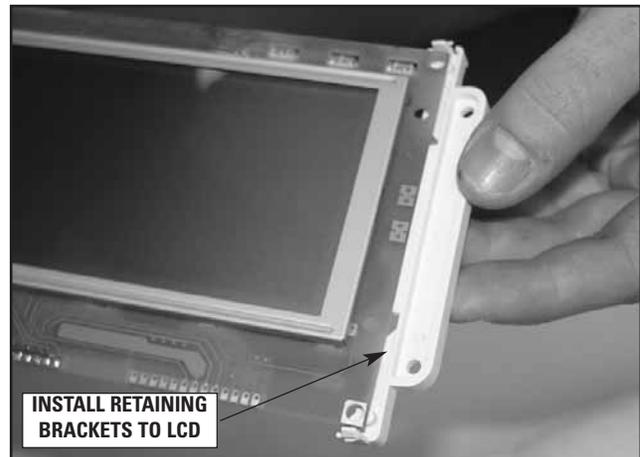

FIGURE 6.19
1. Reinstall the two LCD Retaining Brackets onto new LCD Display, Part Number 27264. See Figure 6.19.